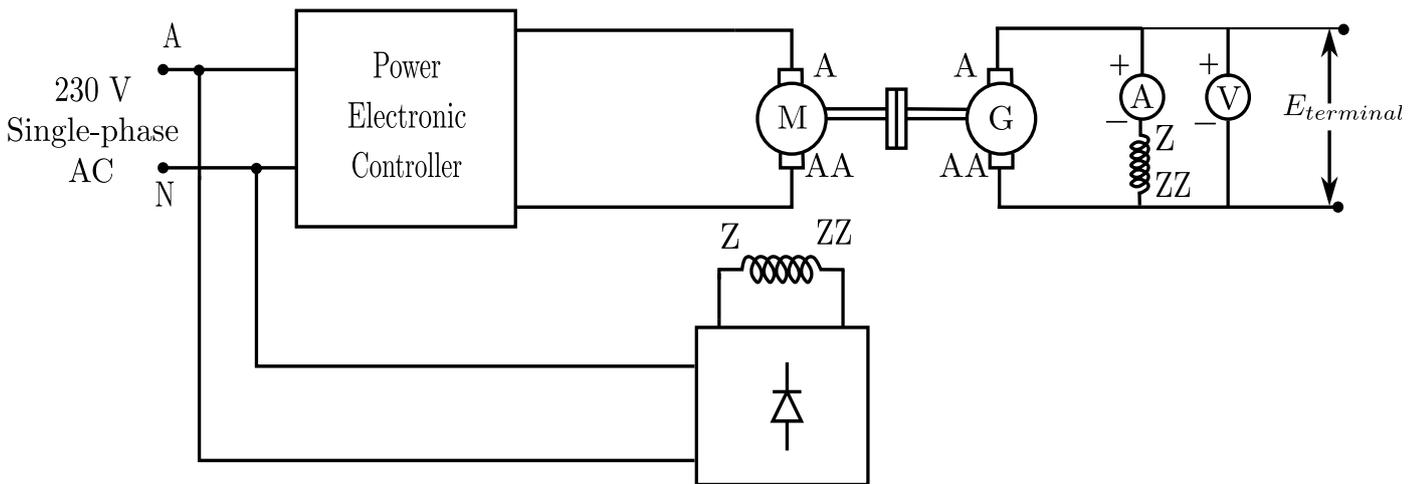

Figure 2: Circuit diagram for separately excited DC generator (for O.C.C test)
- Connect the circuit diagram as shown in Fig.2 (you need to connect the field winding across the armature instead of connecting it to a separate supply).